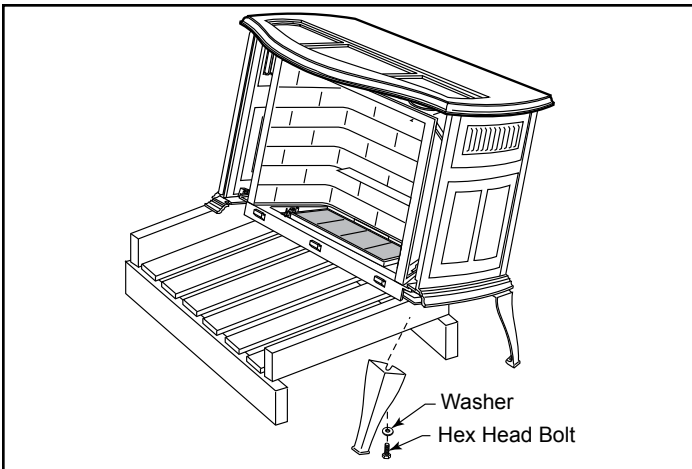

**Fig. 6** - Slide stove back just far enough to access rear leg holes.
1. Slide stove to the rear of the pallet just far enough to access rear leg holes. Make sure the stove does not tip over backwards. (Fig. 6)